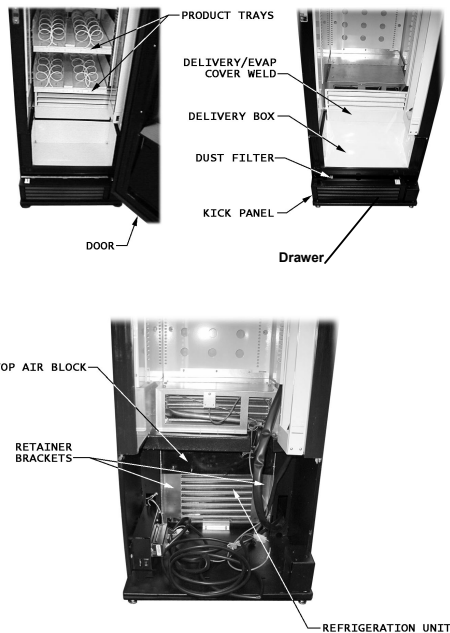

Figure 9.1. Refrigeration Unit Removal
2. Open the door. Refer to **Figure 9.1** on page 33.